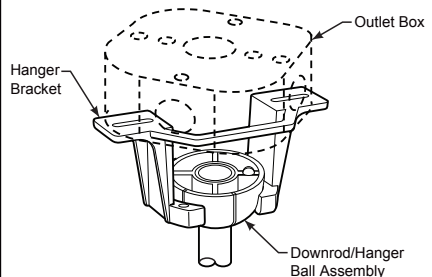

Figure 4
4. Loosen the two set screws and locking nuts in the downrod support of the motor assembly. Route the red, gray and yellow wires through the downrod. (Figure 4)
2. Carefully lift the fan and seat the downrod/hanger ball assembly on the hanger bracket that was just attached to the outlet box. Be sure the groove in the ball is lined up with tab on the hanger bracket. (Figure 4)
☐ **3.** Connect wires using connectors as shown in Figure 4.
- ☐ 4. To make fan operational, install two 3V batteries (included) in hand-held remote transmitter, with fan power off. Then, follow the remote code setting process. If not used for long periods of time, remove battery to prevent damage to transmitter. Store the remote away from excessive heat or humidity. (Figure 4)